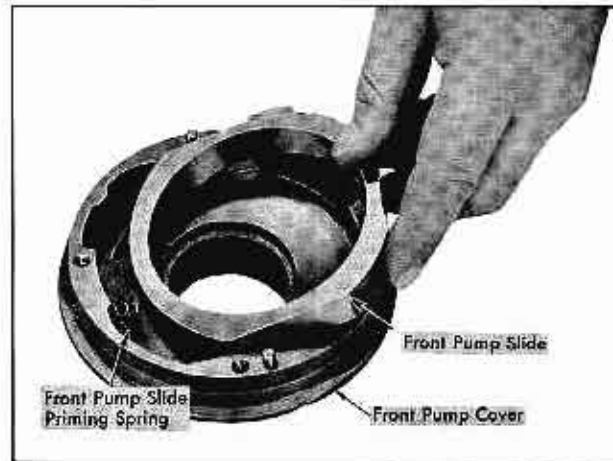

Fig. 14-51 Removing Front Pump Slide
9. Remove slide and two priming springs. Fig. 14-51.